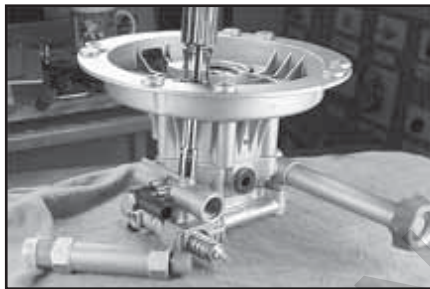

Figure 2
2. With a 10mm socket, remove the cap plug (Figure 2).